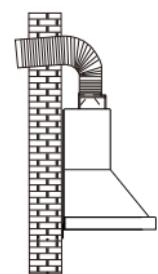

Fig.3
3. In order to get the best performance, do not extend the vent pipe too long, and try to make the bend of the vent pipe less and straight, make sure the vent pipe connection is firm and air proof. (Fig.3)